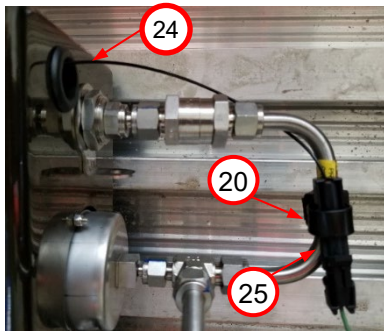

Figure 8b.
16. Disconnect chassis harness drive away protection (DAP) circuit connector (25) from fuel fill panel (24) dust cap DAP circuit connector (20). *Figure 8b*